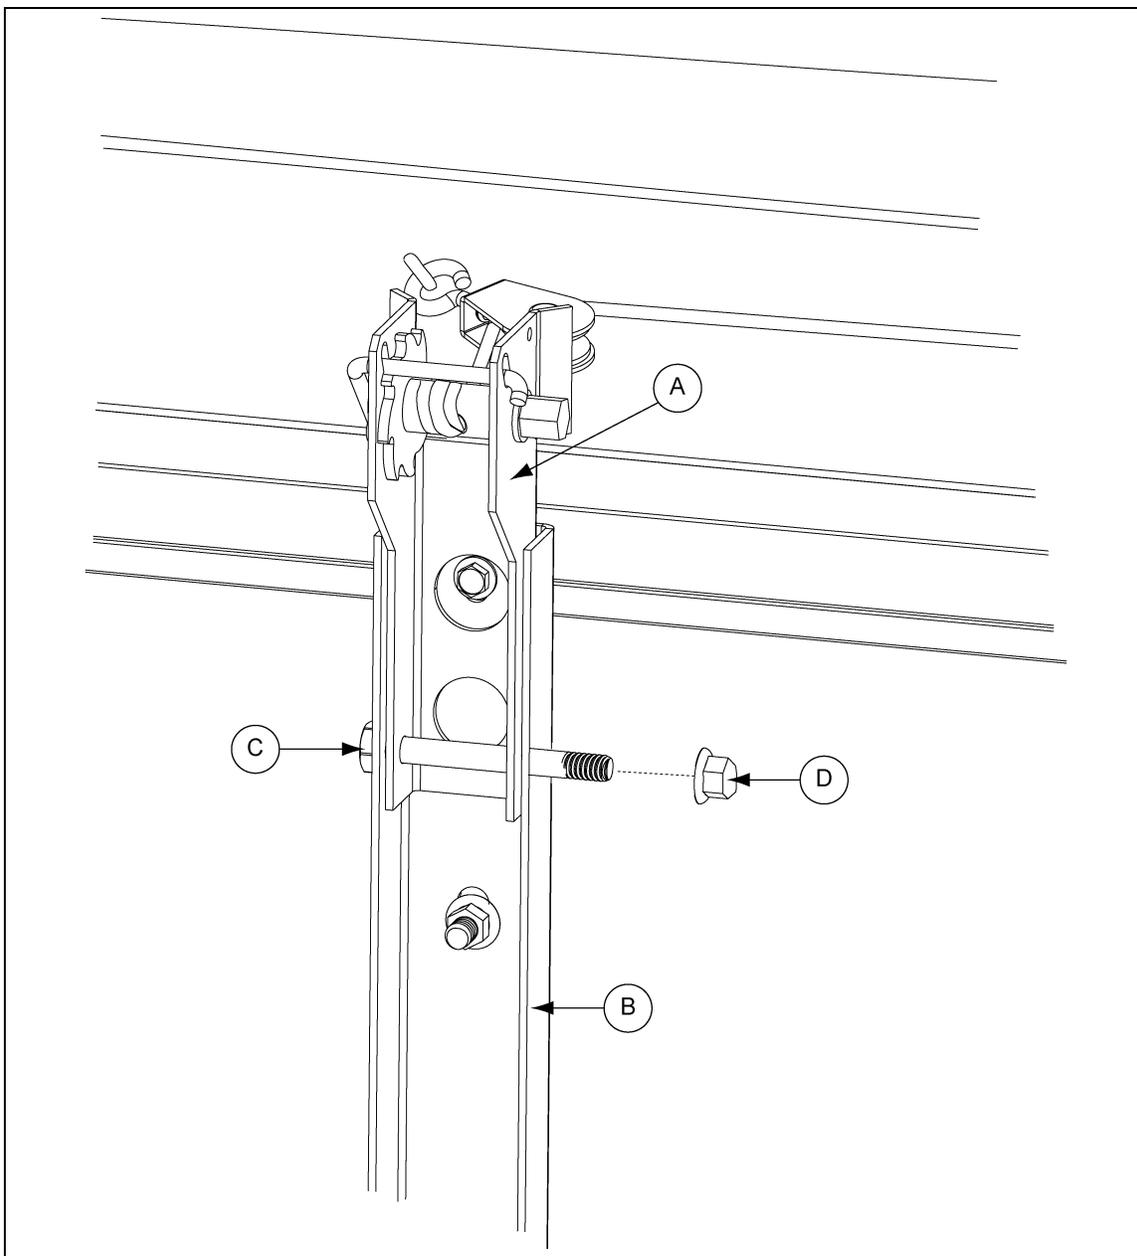

Figure 3P
1. Align the winch ratchet assembly (30-0681W) (A) with the top holes in the support channel (B).
2. Fasten winch ratchet assembly (30-0681W) (A) to the support channel (B) with 1/4" x 2" bolt (C) and nut (D). (See Figure 3P.)